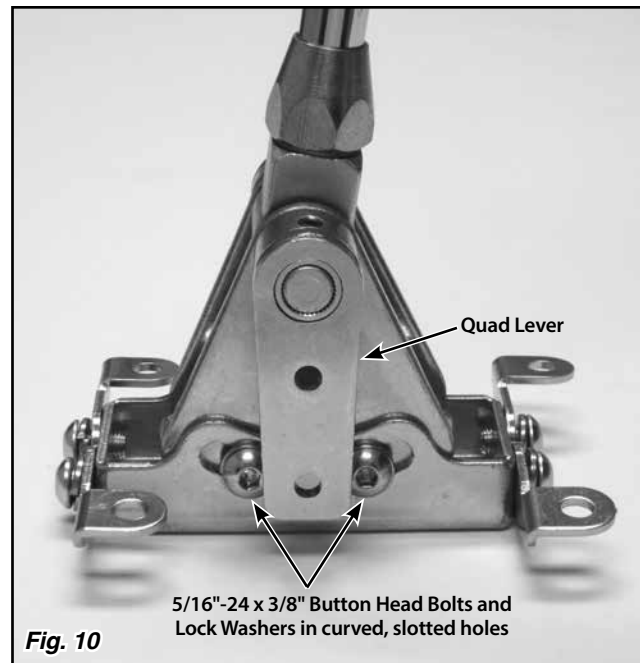

Fig. 10
Step 12: Make sure the two 5/16"-24 x 3/8" button head bolts and lock washers that are in the curved, slotted holes in the driver side of the floor mount mounting bracket are tight. **Fig. 10** Place the Shifter in the desired location on the vehicle's floor. Make sure the shifter lever will not interfere with the dash when in Park, or with the seat when in low gear. The shifter assembly may be tilted forward or backward if needed by loosening the two 5/16"-24 x 3/8" button head bolts and lock washers that are in the curved, slotted holes in the driver side of the floor mount mounting bracket. Retighten the button head bolts and lock washers in the curved, slotted holes once you have the shifter assembly at the angle you want.